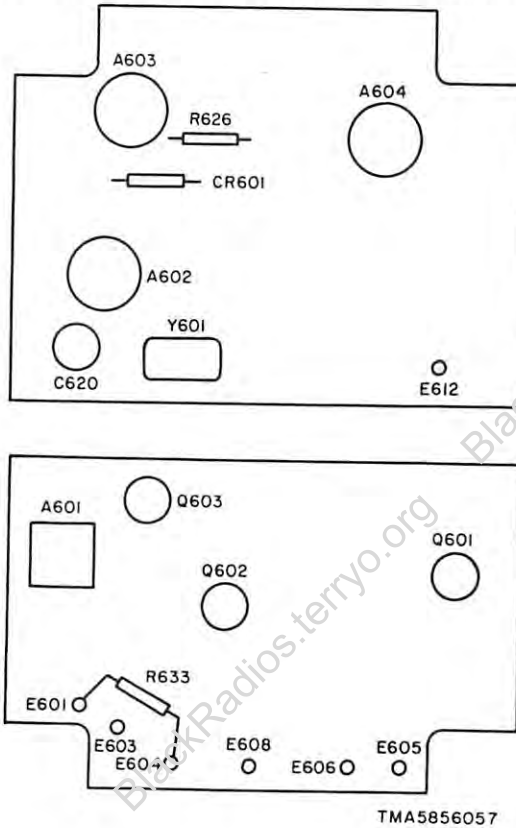
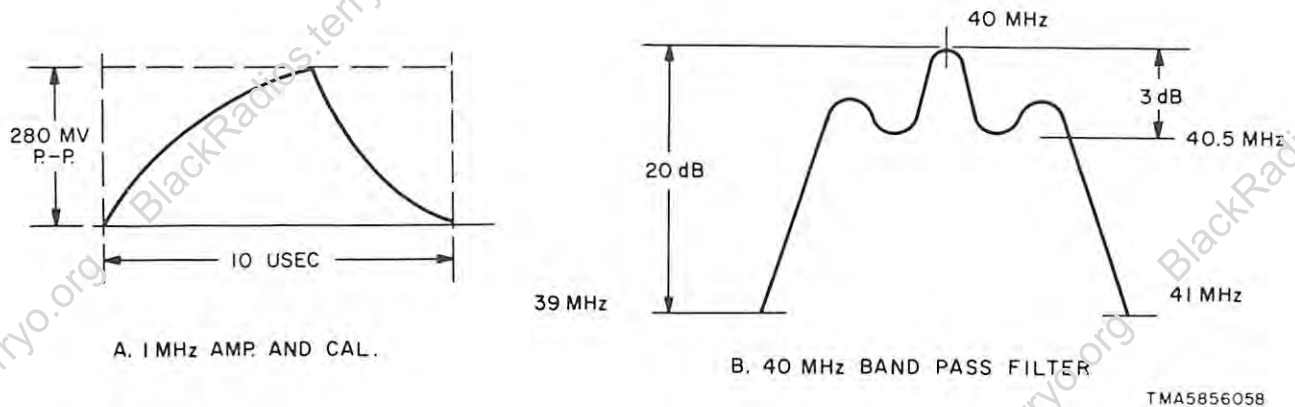

FIGURE 7-5 1 MHz AMPL AND CALIBRATOR ALIGNMENT PARTS LOCATION
FIGURE 7-6 ALIGNMENT WAVE SHAPES
(2) Remove 1-MHz crystal Y601 (fig. 7-5) from the 1 MHz AMP AND CAL module .
- (1) Signal generator.
- (2) RF voltmeter.
- (3) Frequency counter.
- (4) Oscilloscope.
c. 1-MHz AMP AND CAL Module (fig. 7-5).
- (1) Remove the 1 MHz AMP AND CAL module and the 37.5 MHz GENERATOR module. (para 6-9)
- (2) Connect the extender cable from P101 to J601.
- (3) Remove the cover from the 1 MHz AMP AND CAL module.
- (4) Connect the RF voltmeter to E612, and check to see that an indication of approximately 120 millivolt is obtained on the RF voltmeter.
- (5) Connect the frequency counter to the 1 MHz OUT jack.
- (6) Adjust C620 until a 1 MHz indication is obtained on the frequency counter.
- (7) Connect the RF voltmeter to E601.
- (8) Adjust A601 for a maximum indication on the RF voltmeter. This indication should be approximately 4 volts.
- (9) Connect the RF voltmeter to E603, and check that the 1-MHz level is approximately 120 mV.
- (10) Remove crystal Y601, and connect the signal generator to E605.
- (11) Adjust the signal generator for a frequency of 1-MHz with an output of 100 millivolts.
- (12) Connect the RF voltmeter to E612 and check to see that approximately 100 millivolts is indicated.
- (13) Replace crystal Y601; disconnect the RF voltmeter and signal generator.
- (14) Connect the oscilloscope to the junction of CR601 and CR602.
- (15) Waveform observed should be as illustrated in A, figure 7-6.
- (16) Disconnect the oscilloscope, and connect the RF voltmeter to the junction of CR606 and CR605. Check to see that approximately 1.5 volts is indicated.
- (6) Adjust R311 for a minimum indication on RF voltmeter.
- (7) Disconnect the signal generator from J112 and the RF voltmeter from E507.
- (8) Reconnect J112 to P401.
- (9) Connect the sweep generator to RF input jack J201.
- (10) Connect the oscilloscope input through a 5-picofarad capacitor to E507.
- (11) With the MHz control set to provide 05 on the MHz frequency indicator, adjust the sweep generator and oscilloscope until a usable display is obtained on the oscilloscope.
- (12) Set the marker (provided by internal or external source) to 40 MHz.
- (13) Adjust L301 through L308 on the 40 MHz BPF to produce the waveform shown in B of figure 7-6.